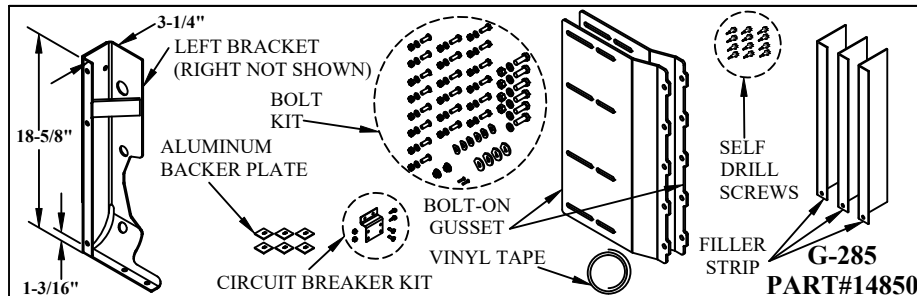

Figure 1: G-285 Part Identification.
2. Verify mounting bracket kit (Figure 1 and Table 1).